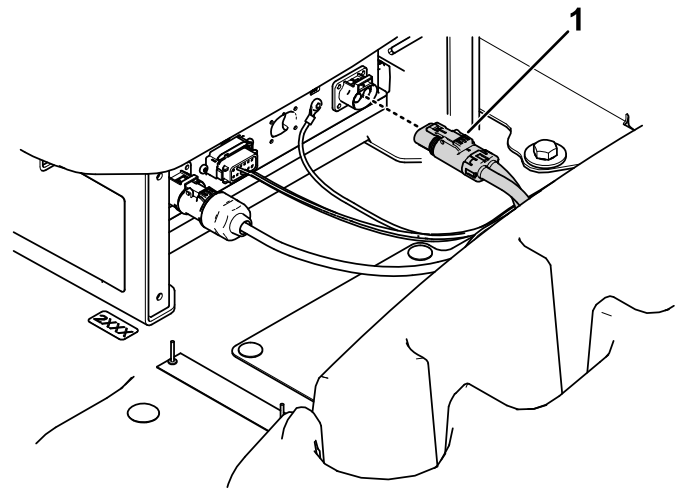

Figure 13
3. Remove the DC power connector from the charger (Figure 13).
2. Install the DC power connector to the charger (Figure 13).